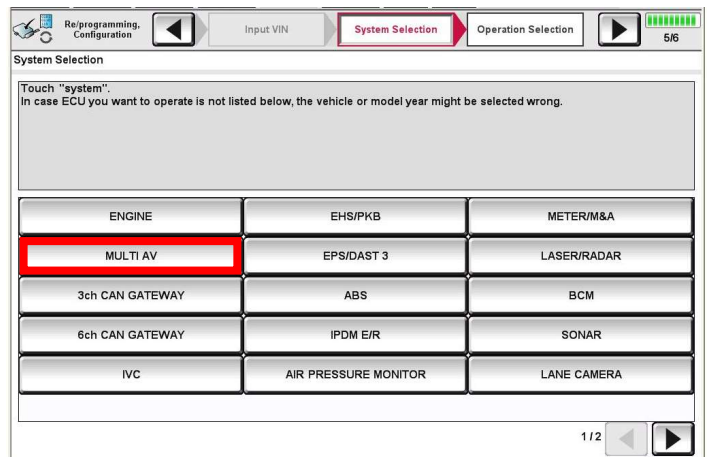

Figure 11
12. Locate and select **MULTI AV** from the systems list. (Figure 11)